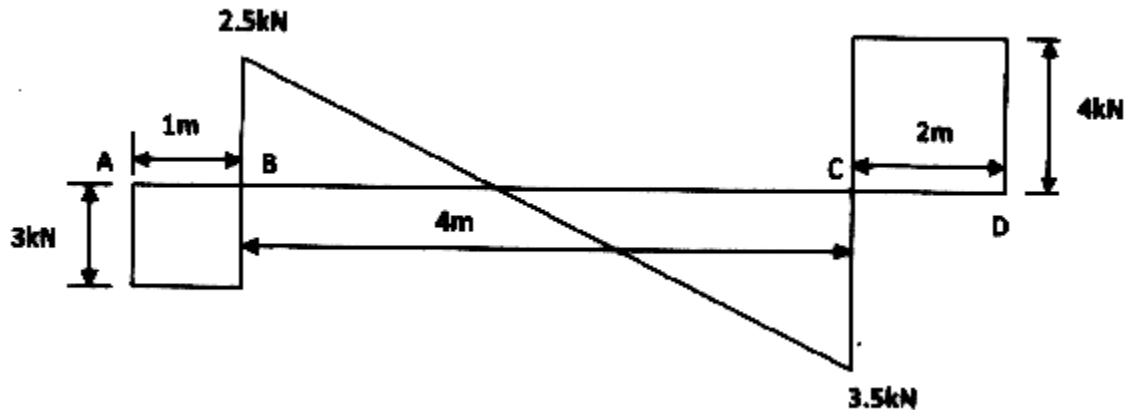

Fig. 4
- (b) Shear force diagram for a loaded beam is shown in Fig. 4. Determine the loading on the beam and hence draw bending moment diagram. Locate the point of contraflexure, if any. [10]